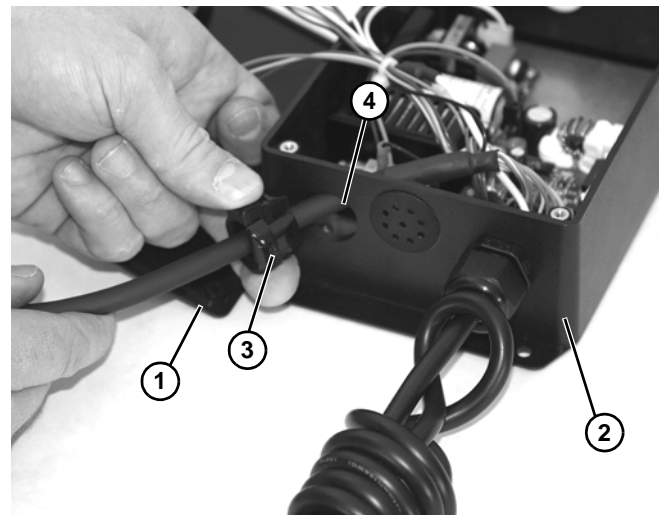

Figure 25
2. Remove four screws and cover (Figure 25, item 1) from controller (Figure 25, item 2).
3. Pull out cord retainer (Figure 25, item 3) from controller opening (Figure 25, item 4).